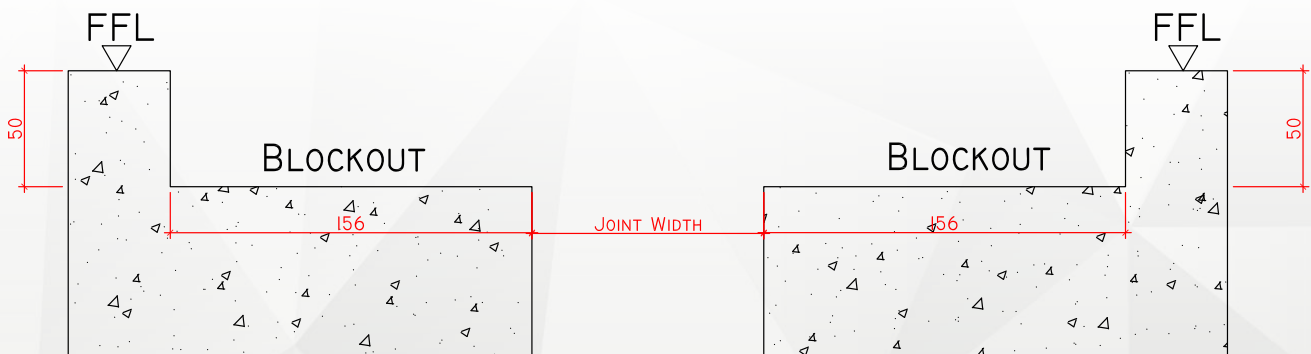

Figure 1.
3. The base of the blockout should be leveled, flatted and paralleled. The minimum width of the blockout is 141mm and the depth is 50mm below the finish floor level. See figure 1 below for the blockout details;